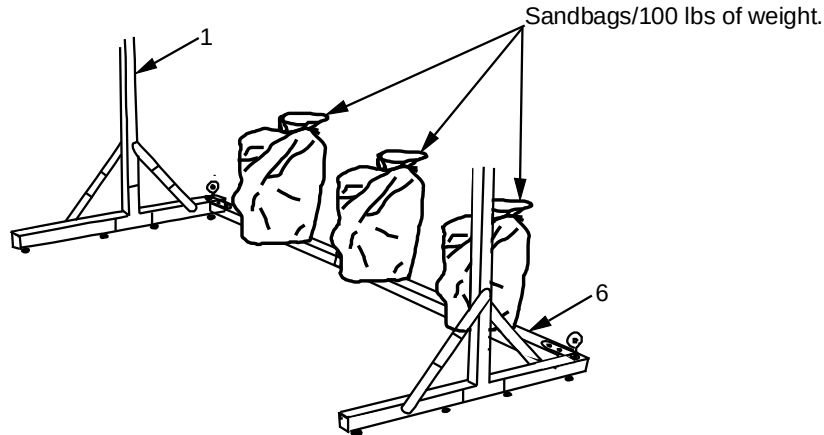

Figure 5. Counterbalance Frame with Sandbags.
9. A counterweight, such as three sandbags or 100 lbs of weight can be placed over the lower crossbar (6) that extends between the rear legs of the screen frame assembly (1) as shown in Figure 5.